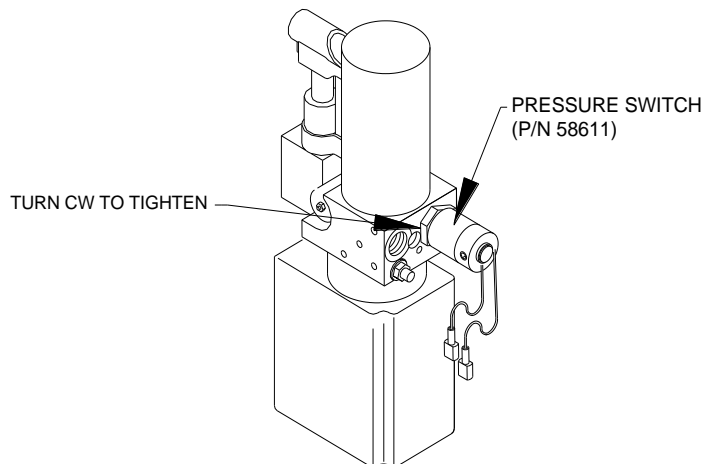

FIGURE 2: PRESSURE SWITCH P/N 58611
1. Refer to **FIGURE 2**. Use a wrench to turn the 1-1/8" hex nut and install the pressure switch.